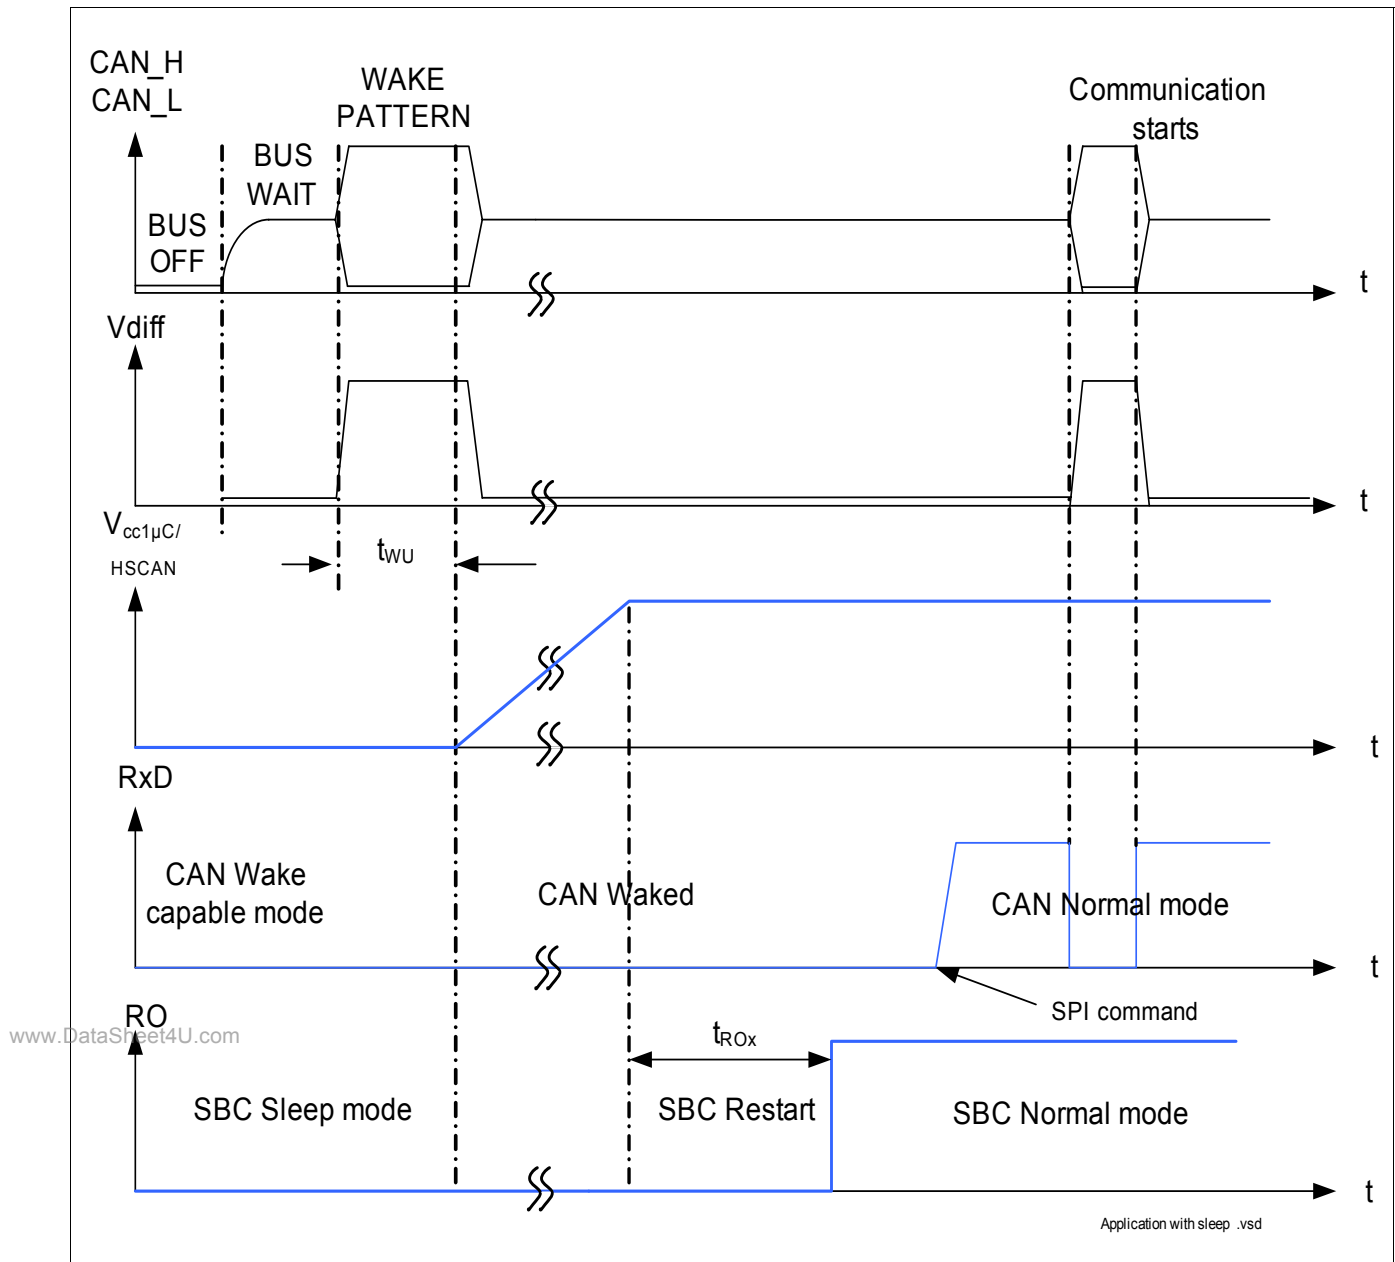

Figure 13 Timing during Transition from Sleep to Normal Mode
Wake-up is possible via a CAN message (filtering time $t > t_{WU}$), it automatically transfers the SBC into the SBC Restart Mode and from there to Normal Mode the RxD pins in set to LOW, see Figure 13. The microcontroller is able to detect the low signal on RxD and to read the wake source out of the "Wake Register Interrupt" register (000) via SPI. No Interrupt is generated when coming out of Sleep Mode.
In SBC Sleep Mode, a wake-up on the CAN cell will set the SBC to Restart Mode automatically if the CAN Wake Capable Mode of the SBC is selected via SPI. **Figure 13** shows the typical timing.